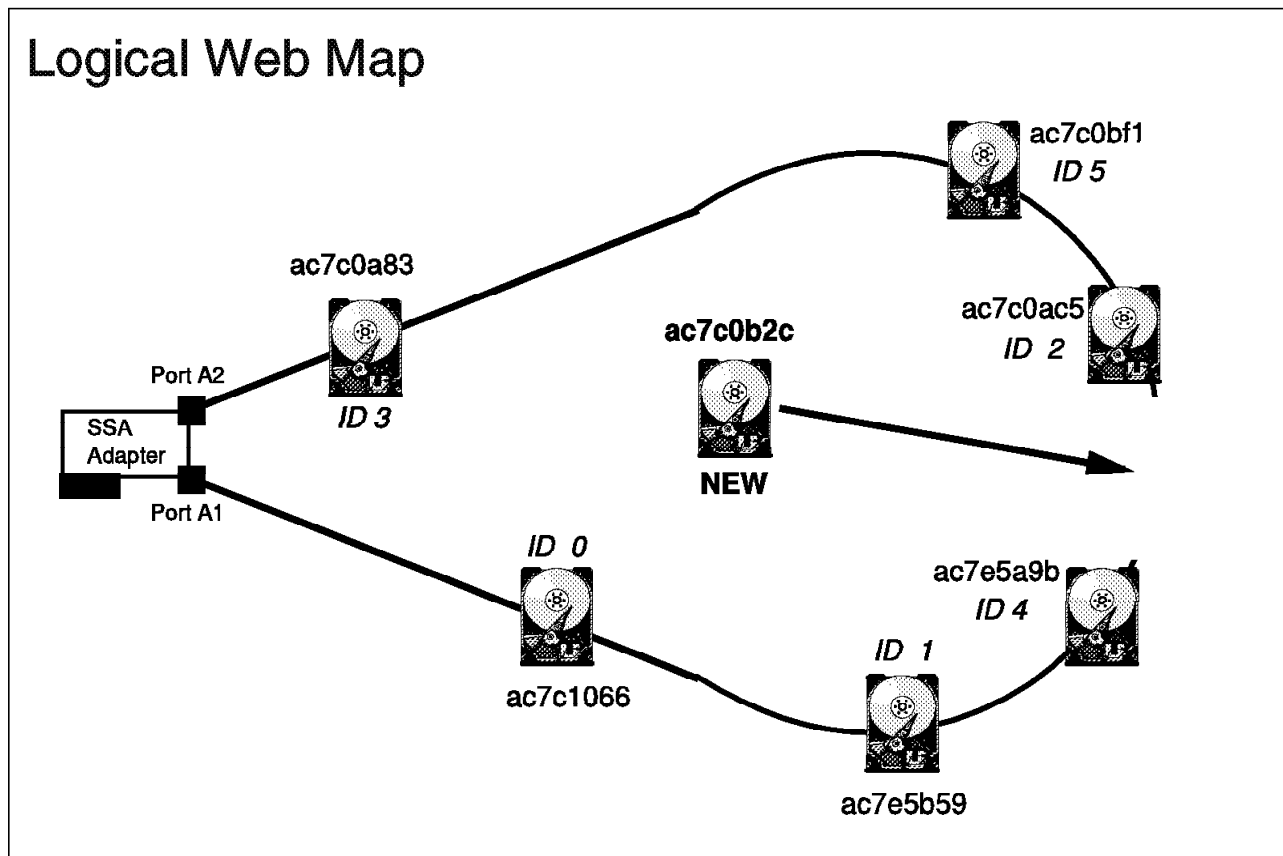

Figure 115. Inserting a New Drive into an SSA Interface Controller Loop
1. Identify the place in the SSA loop where the drives are to be inserted (we have chosen to insert the drive between **C** and **D**). Break the SSA loop at this spot by disconnecting the cables linking the two drives. This will divide the loop into two strings (Figure 115) The steps are as follows:.